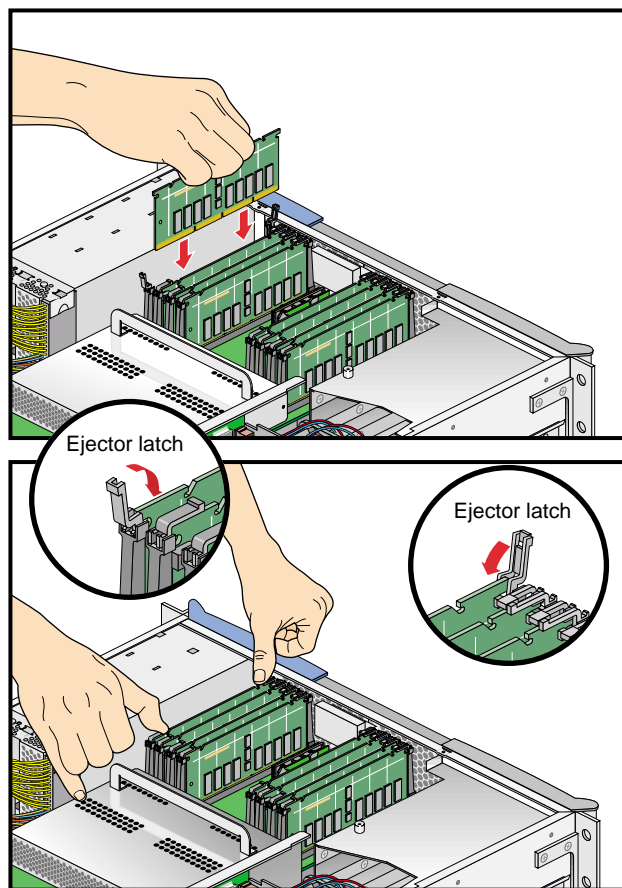

Figure A-8 Inserting a DIMM
7. Install the DIMM, as follows (see Figure A-8):
- e. Gently push the plastic ejector latches down to secure the DIMM, as shown in Figure A-8. When the DIMM is fully seated in the connector, the ejector latches snap into place.